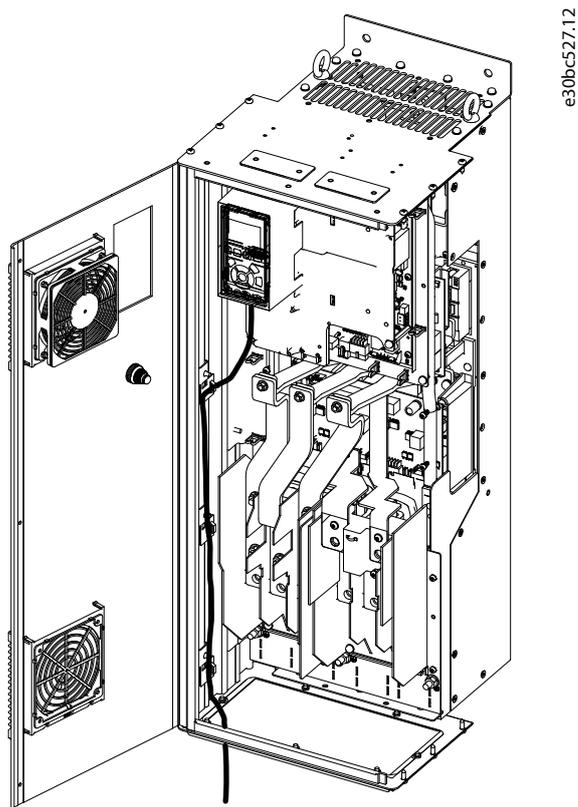

Figure 12: Wiring of Enclosure Sizes D and E
3. Tie down the cable and route it with other control wires inside the unit as shown in Figure 12.